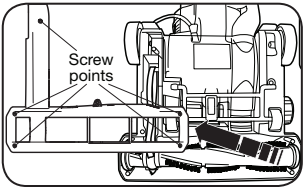

Fig. 1
2. Remove the five screws holding the bottom plate in place (Fig. 1).